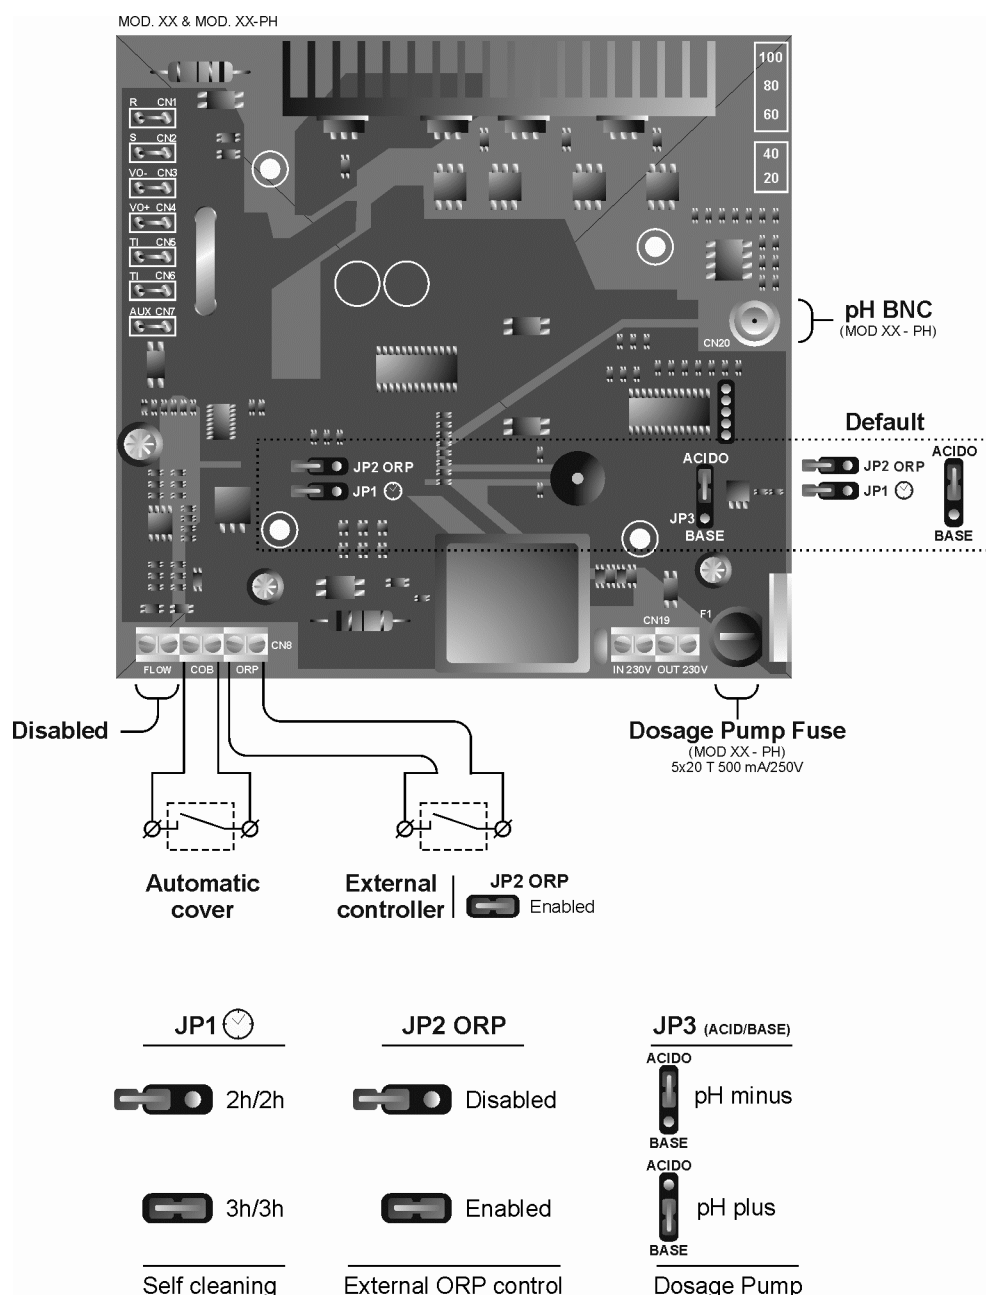

Fig. 16
- **ELECTRODE SELF-CLEANING System:** the leds [5] indicate electrode polarisation status (direct/reverse). The reversal frequency can be selected by means of jumper "JP1" on the system control panel (Fig. 16). This configuration will become effective by disconnecting and connecting again the equipment.